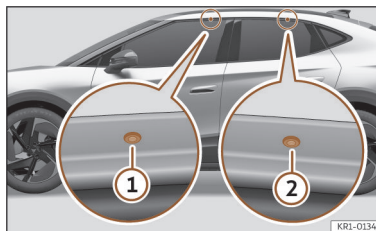

Fig. 174 Attachment points for the roof railings for the roof carrier system.
The front and rear attachment points ① and ② are only visible when the doors are open >>> **Fig. 174.**